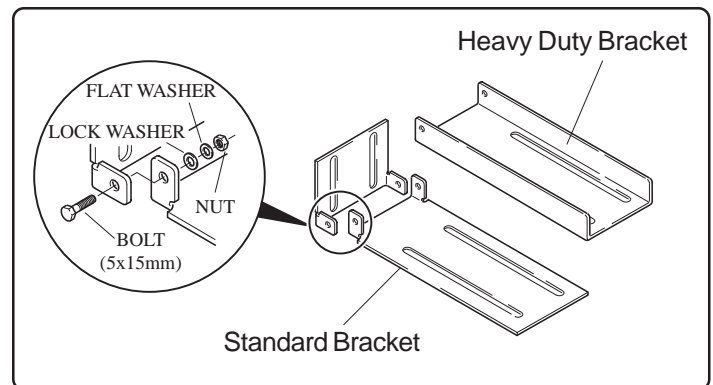

Figure 1. "L" Bracket Assembly
1. Select and assemble the adjustable "L" Bracket that fits your specific need. (See figure 1)